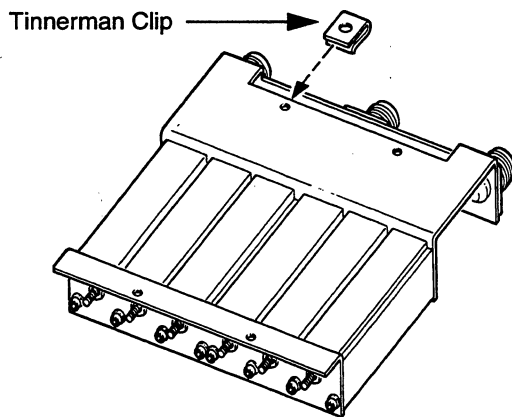

Figure 3-2. Duplexer, Bottom View
1. Examine the duplexer that was ordered for the GR500 X-Pand repeater model being assembled. If four (4) of the mounting holes contain Pemnuts (threaded inserts), proceed to Step 3. If no Pemnuts are present, locate the four (4) Tinnerman clips in kit HKN9025 and continue with Step 2.
2. Using a pair of needle nose pliers, place the Tinnerman clips over four of the mounting holes of the duplexer (refer to Figure 3-2).